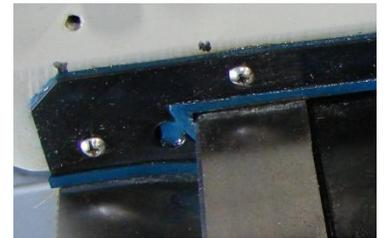

figure 7
A tapered gib is used for adjusting the saddle bearing on the knee (fig. 7). This forms a guide for the saddle. To tighten the gib, first remove the pleated way cover (**P**). Next remove the (4) screws holding on the chip wiper guard plate and pull it back. The adjustment can be made through the hole as indicated on the wiper. To tighten gib, turn adjusting screw clockwise (**cw**) until a slight drag is felt when moving the saddle manually. Replace the chip wiper guard plate and pleated way cover.